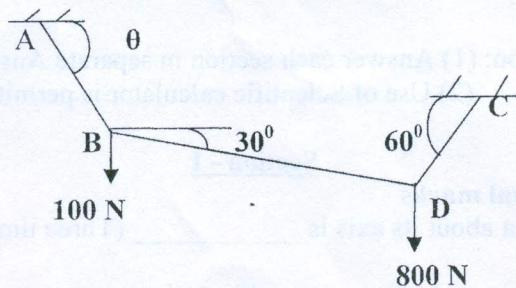

Fig 3 (NOT TO THE SCALE)
- [A] Compute the Tension in all strings for the following fig 3.